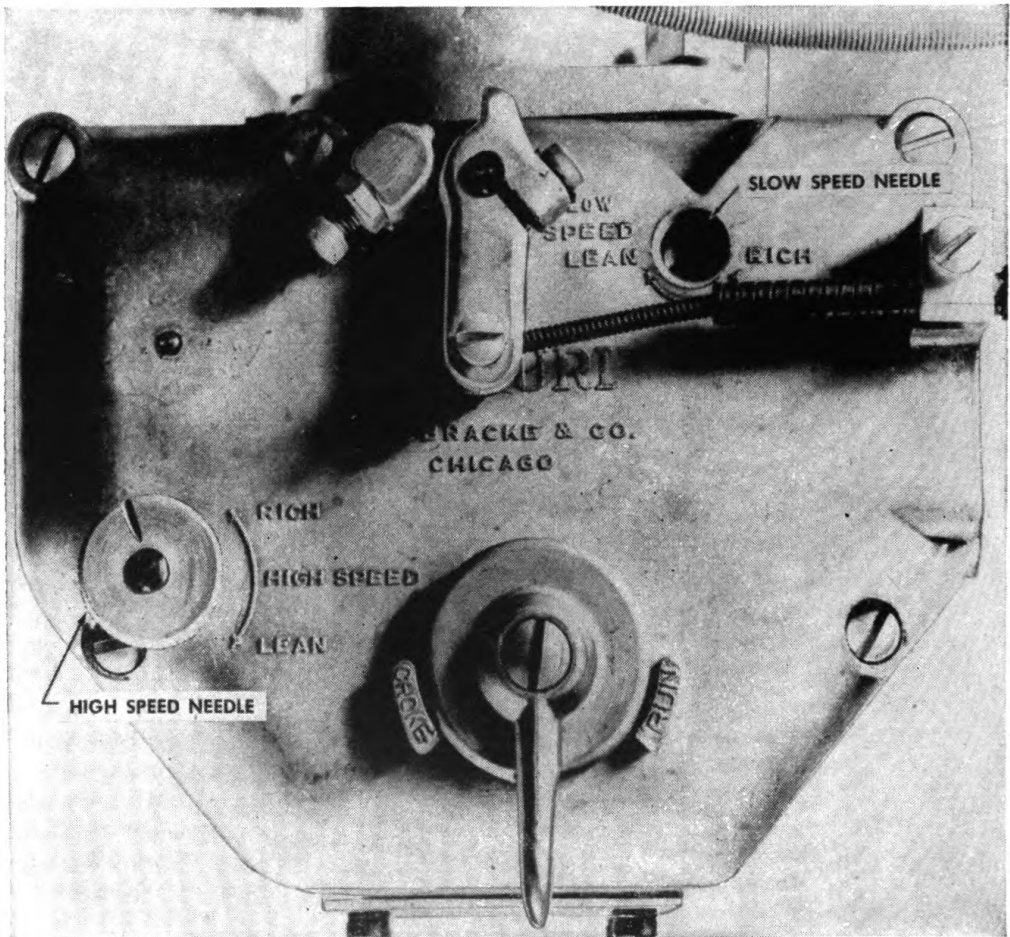

Figure 92. Carburetor needle controls.
d. CARBURETOR ADJUSTMENT. The carburetor has two jets to insure efficient carburetion throughout entire speed-range of motor. The slow-speed jet provides correct carburetion at slow and intermediate speeds, high-speed jet from intermediate to top speeds. Two adjustments are necessary—slow- and high-speed needles. (See fig. 92.)